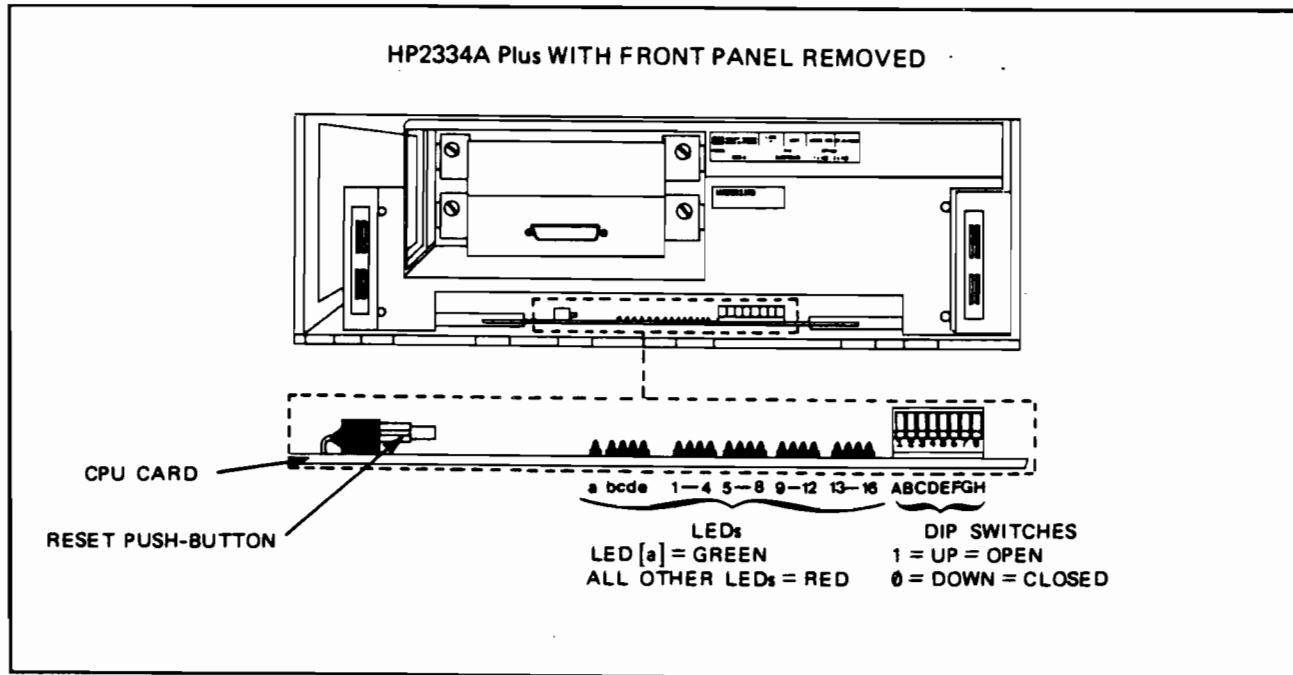

Figure 7-1 CPU Card LEDs and Switches
Mounted on the CPU Card are the Reset push-button, eight DIP switches and 21 LEDs (Light Emitting Diodes) as shown in Figure 7-1.
**Procedure.** To enter RUN mode the DIP switches (see Figure 7-1) must first be set as follows: